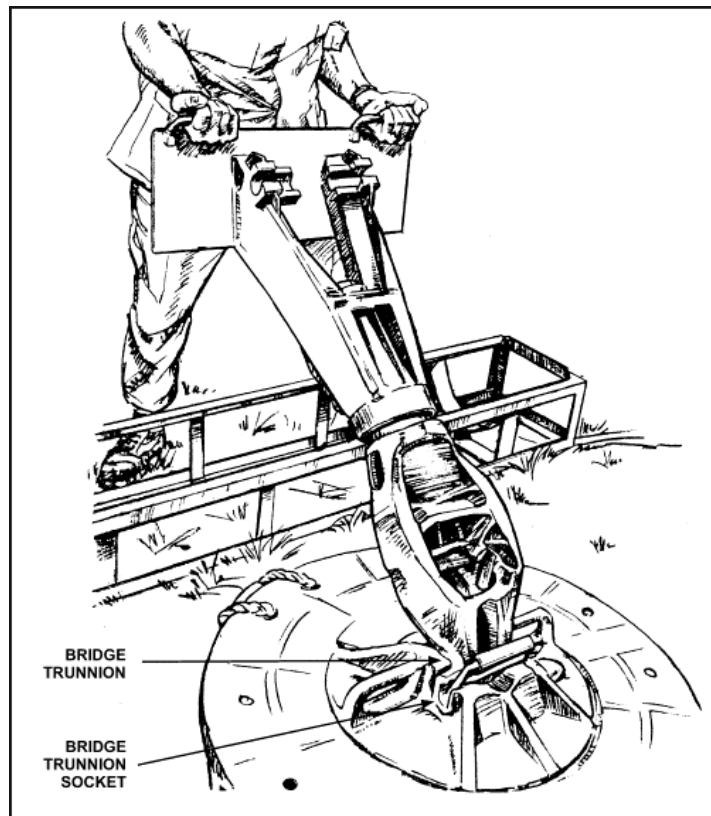

Figure 6-8. Rotator and bridge assemblies installed.
- d. The squad leader and ammunition bearer secure the bridge assembly; the ammunition bearer carries the socket end and seats the trunnions of the bridge assembly into the trunnion socket of the rotator. The squad leader elevates the spade end of the bridge, thus allowing the trunnions to slide into place (Figure 6-8). The squad leader places the spade end down on the sandbags or ammunition box and positions it so it is level in the horizontal plane.